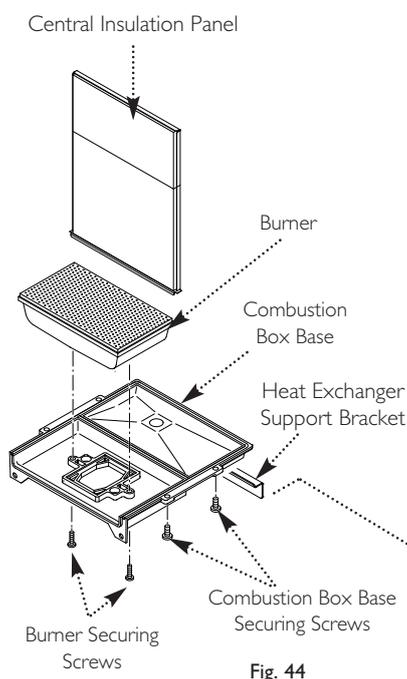

Fig. 44
h) Loosen the two screws retaining the heat exchanger support bracket and slide to the left to remove (Fig. 44).
j) Lower the central insulation panel and check condition (Fig. 44). Replace the lower insulation pad if necessary.